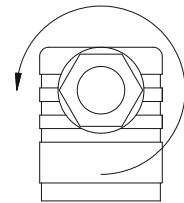

Fig. 5.2.3
- ↪ Loosen the screwed cable gland ⑤ M16x1,5 (→ Fig. 5.2.3).